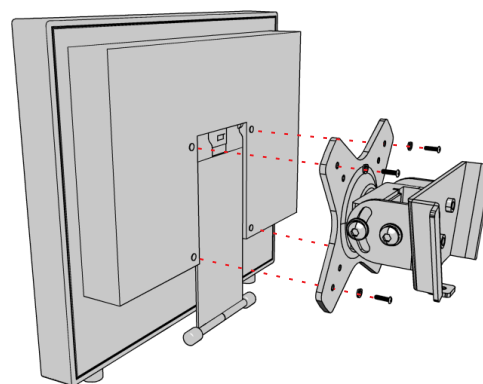

Figure 1. Attaching the Monitor Mount
2. Attach the monitor mount to the monitor. Refer to Figure 1 and do one of the following: